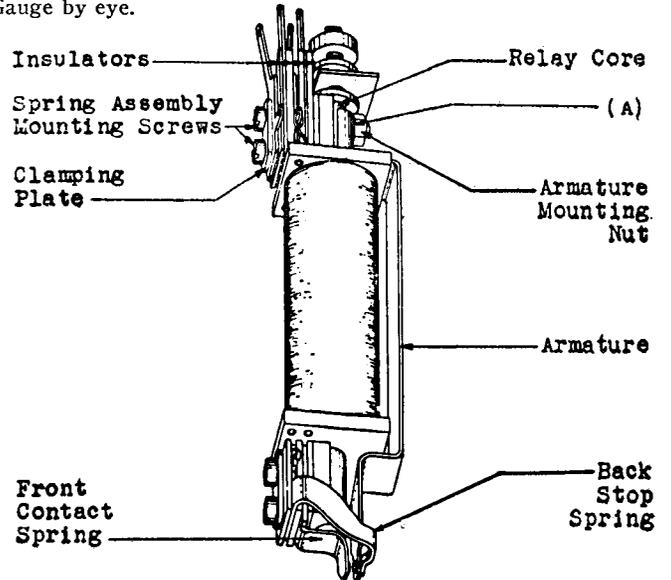

Fig. 2—194-type Relay
2.09 **Relay Mounting:** Fig. 2(A)—The armature shall be fastened securely to the relay core and the relay shall be fastened securely to the mounting strip.